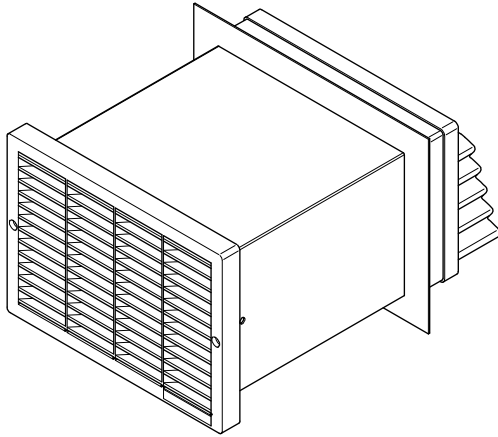

Fig. 1
3. Installation and maintenance for all units is the same, therefore the majority of this booklet is based on the standard unit (Fig.1) For additional information on the other humidistat model, please refer to additional information (section 6.0)